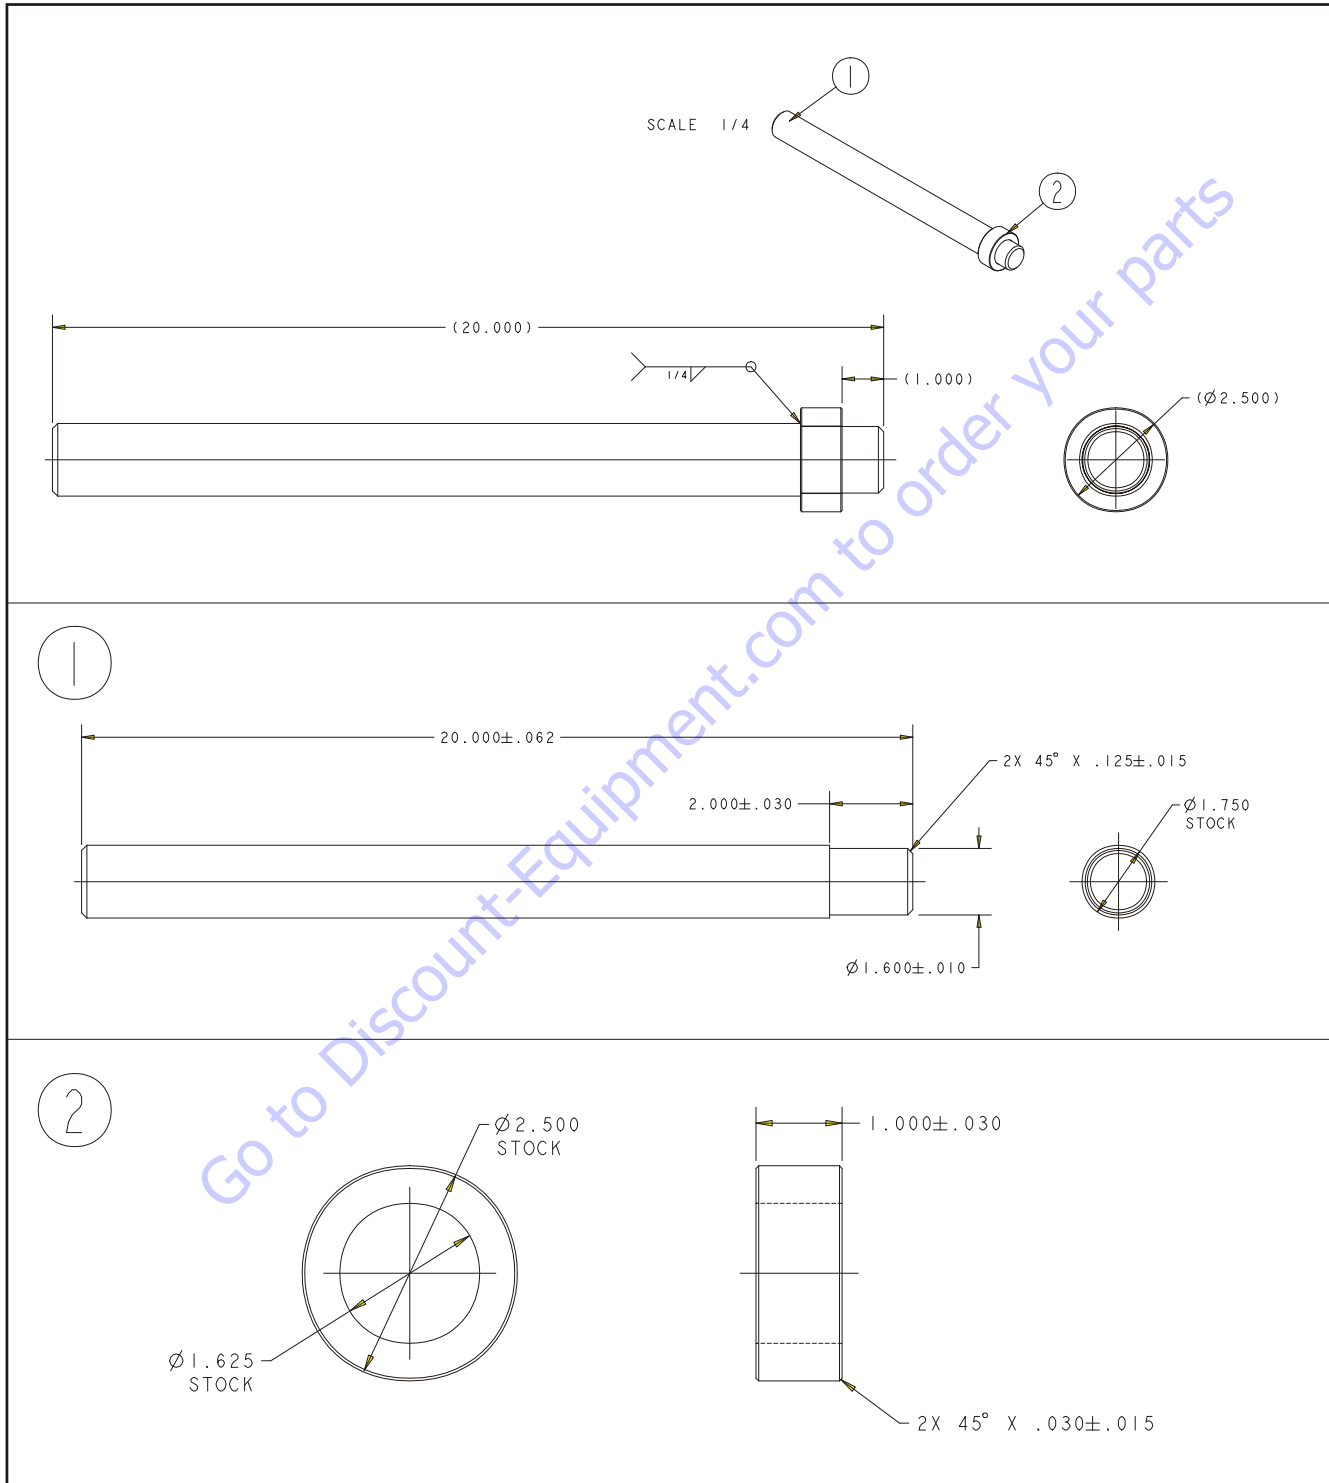

Figure 4-18. Load Pin Removal Tool, JLG PN 4846765
6. Use the Load Pin Removal Tool (JLG PN 4846765) to prevent the pin from being damaged, and use a hammer to remove the pin. To make the tool refer to Figure 4-18., Load Pin Removal Tool, JLG PN 4846765. If the Load Pin Removal Tool is not available, use an arbor of the proper size (as shown below). If excessive force is necessary to move the pin, it may be necessary to carefully activate lift using the auxiliary power switch to relieve lift cylinder weight from the load sensing pin.